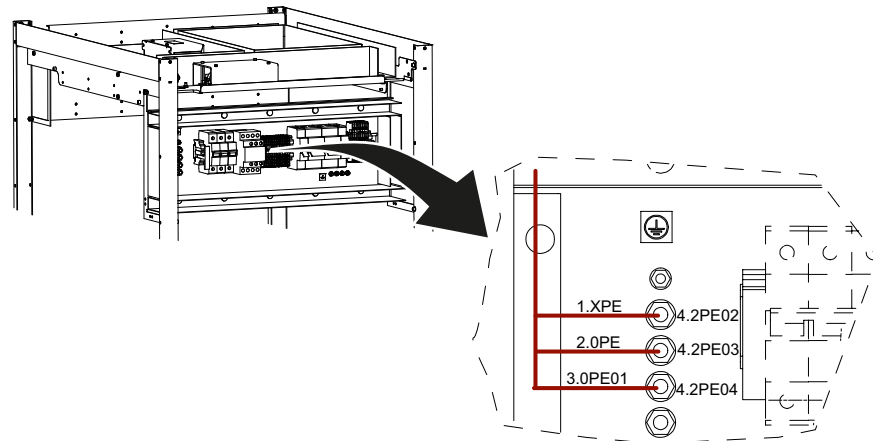

Fig. 4-74 Protective earth 4.2
1. Make sure the protective earth cables from table, wallstand and OTC are connected and the bolts are tightened, see **Fig. 4-74**.